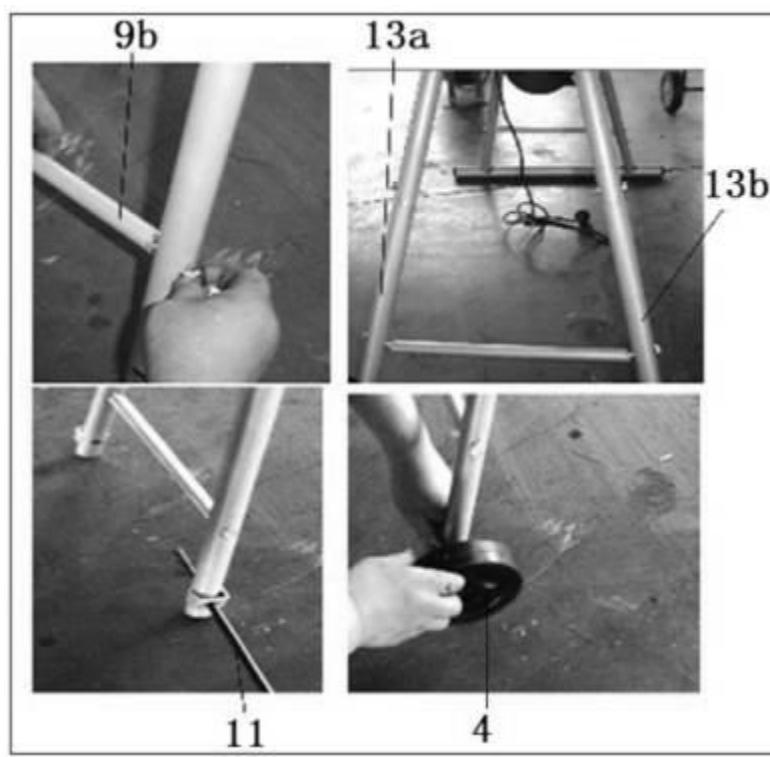

fig.5
- d) Connect horizontal shaft (9b) to back stand (13a&13b) with bolts, assemble the wheel shaft (11) and wheels with four spring washers, the last fit wheel covers (fig.5).